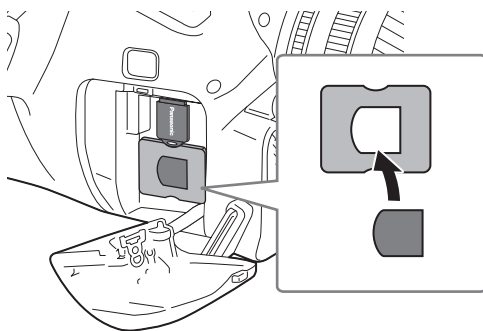

Fig. 3
- 3** Place the (AJ-WM50 only) module holder under the wireless module. (Fig. 3)